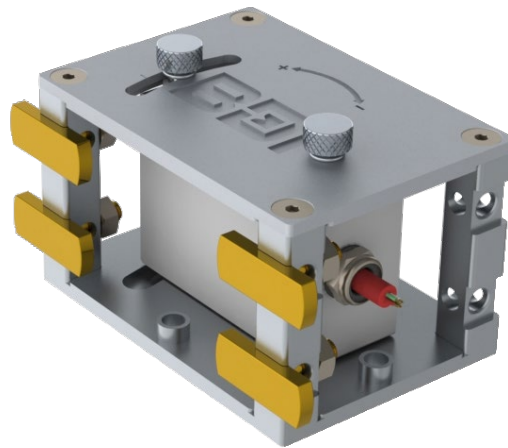

Figure 8: Mounting Tabs Attached for Bottom Mounting
1. Place 4 tabs in mounting holes (in this case, the four bottom holes as shown in Figure 8) and tighten the 1/4-20 (or M6) nuts to approximately 40 in-lbs (4.5 Nm). Note that the Top, Bottom, and End Mountings have machined slots to hold the tabs. The back mount does not have machined slots so a vise grip (or similar tool) will be needed to hold the tab in place while tightening.